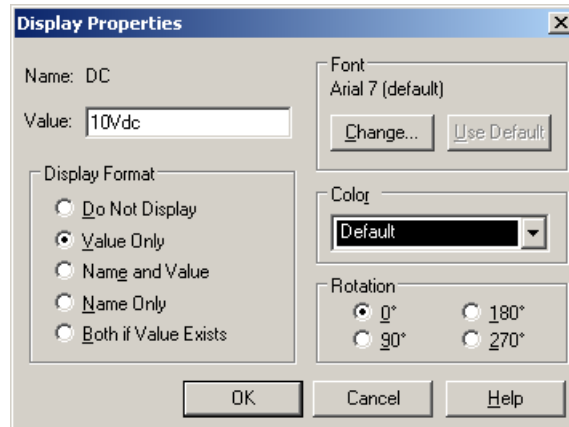

Figure 11: Dialogue box for changing the value of a component, VDC here.
Capture gives each component a default value when it is placed but this must usually be changed. All resistors are initially 1 k $\Omega$ , for instance. The unit is not shown – ohms are assumed by default so the display is just 1k. Double-click on a value to change it. This brings up the dialogue box shown in figure 11 on the next page for the battery (VDC). If you see something different, you have probably double-clicked in the wrong place. Close the box and try again.
- Double-click on the value of R2, which brings up a box like that in figure 11 on page 10.